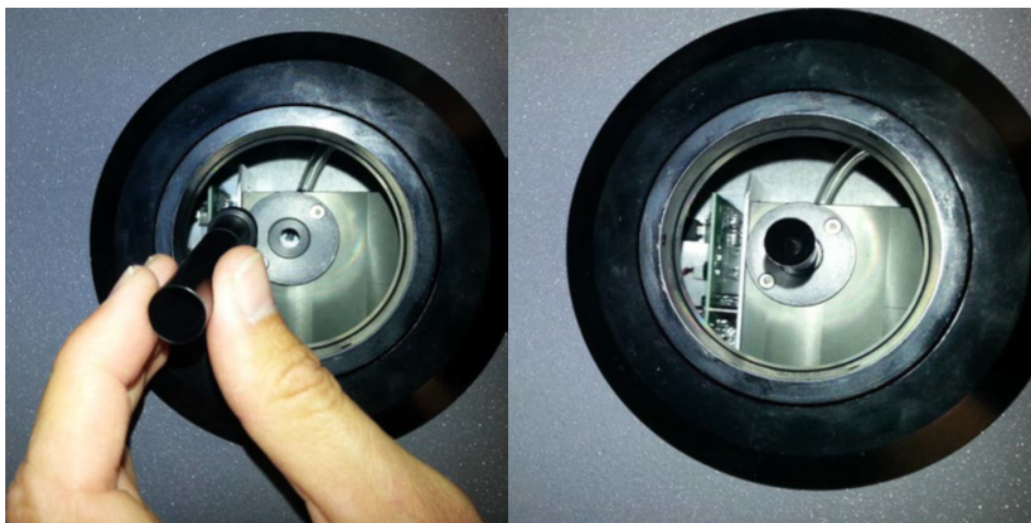
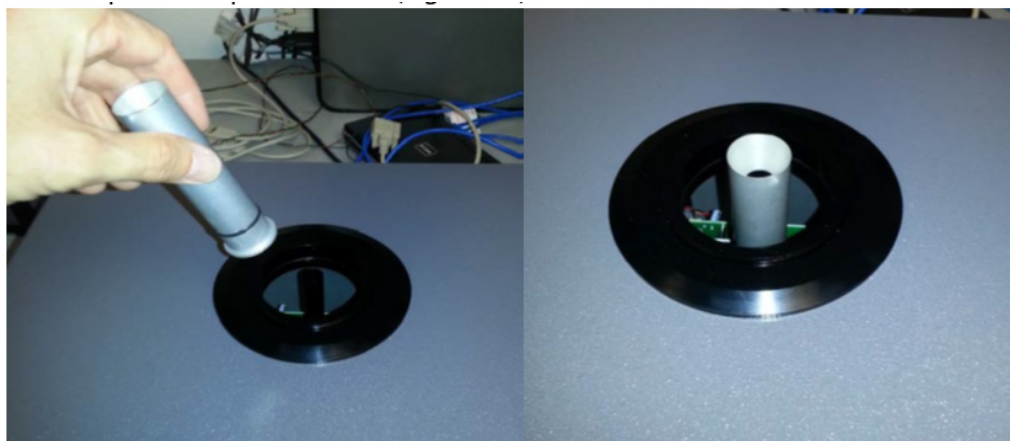

Figure 21. ASC Setup: inlet nozzle.
Figure 22. ASC setup: aluminum adapter.
1. Insert the black inlet nozzle through the center of the support collar into the top of the optical sensor, seating it tightly so that the nozzle's upper O-ring flange is flush with the upper surface of the sensor body (Figure 21).
2. Slide the aluminum adapter over the black inlet nozzle, ensuring its base is flush with the top of the optical sensor (**Figure 22**).
- a. Make sure the black inlet nozzle (Figure 21) and aluminum adapter (Figure 22) are installed on the optical sensor.